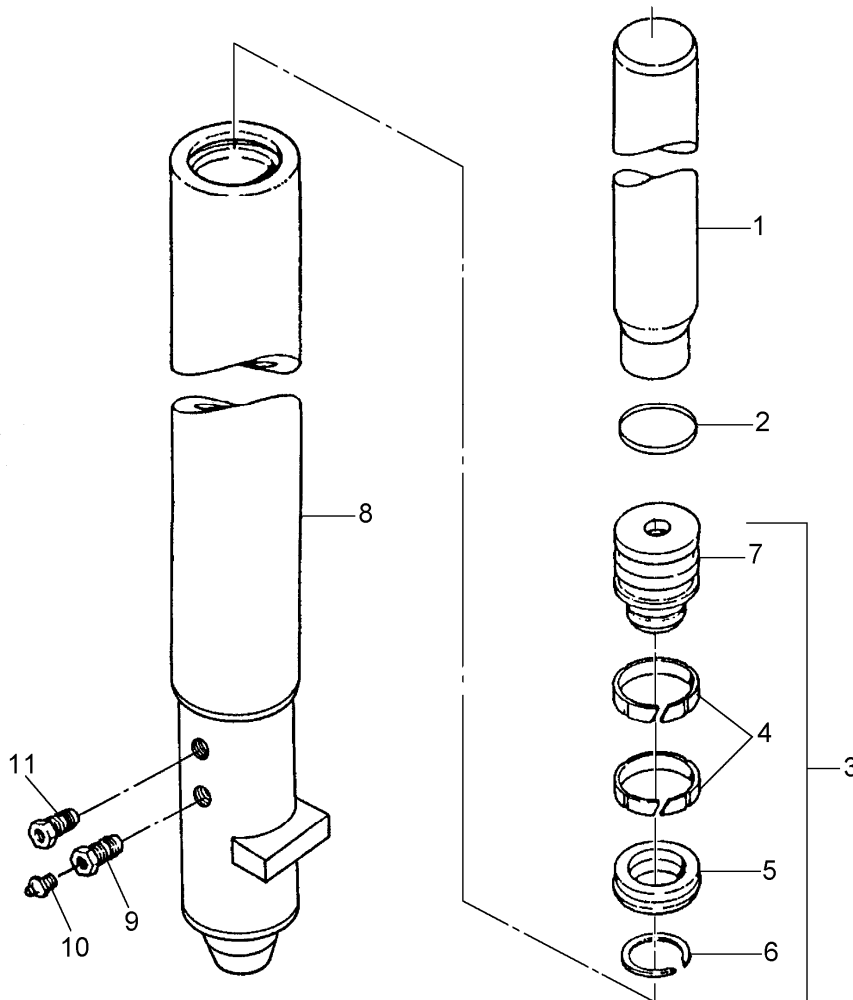

Fig. 14.17. Exploded View of Track Adjuster
14. DISASSEMBLY (Refer to Fig. 14.17)
1. Pull rod (1) out of housing (8). Remove the rod wiper (2) from the housing bore.
2. Remove the piston (3) from housing (8). A 1/2 in. NC tapped hole is provided in the piston to facilitate removal.
3. Remove the retaining ring (6), piston seal (5) and guide rings (4) from piston (3).
4. Remove the lube fitting (10), ball check valve (9) and relief valve (11) from the housing (8).
15. INSPECTION AND REPAIR (Refer to Fig. 14.17)
16. REASSEMBLY (Refer to Fig. 14.17)